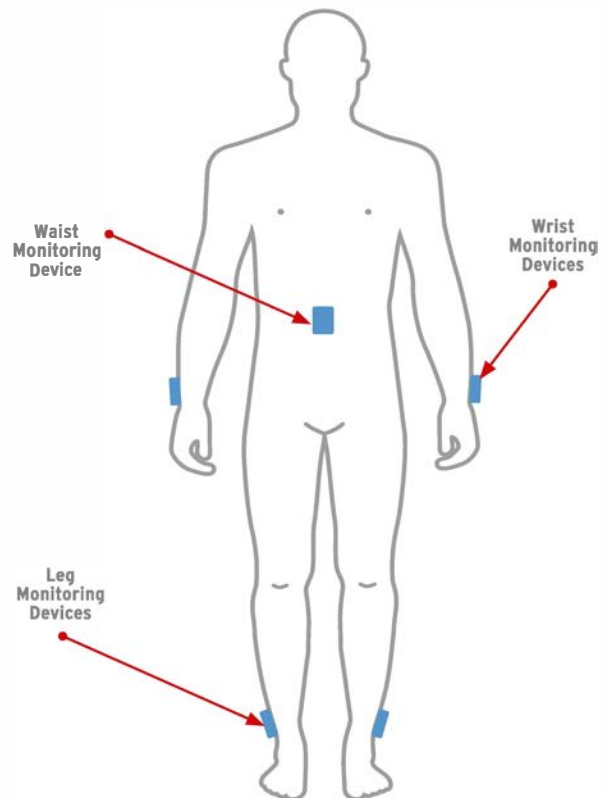

Figure 11. The body parts that PDMonitor® Monitoring Devices should be worn
The five (5) PDMonitor® Monitoring Devices must be placed on specific body locations for PDMonitor® system to function properly. Those specific body locations are depicted in Figure 11. The following section describes in detail how to properly mount the Monitoring Devices.